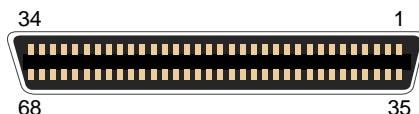

Figure B-8 External SCSI Port Pin Number Locations
- Figure B-8 on page 146 for pin number locations
Figure B-8 shows the external SCSI VHDCI connector pin locations for the external SCSI connector. This connector is used on the Onyx 300 compute module and TP900 storage module. Table B-4 lists the pin assignments for this SCSI connector.